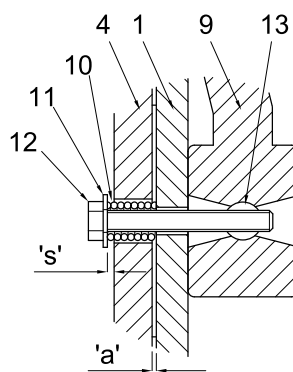

Figure 44 – Hoist Brake Hand Release
- Insert the compression springs (10) into the holes of the armature plate (1).
- Fit the washers (11) onto the hand release fixings (12) and assemble through the compression springs (10) and the stator (5).
- Fit the barrel nuts (13) into the holes provided in the hand release (9).
- Position the hand release (9) over the stator and tighten the hexagon screws (12) into the barrel nuts (13) until the armature plate moves towards the stator.
- Adjust the gap between the armature plate and the stator using the hexagon hand release screws (12) to achieve a dimension ('s' + 'a') (see Figure 44). Example 1.8mm (1.5+0.3) for brake size 3. Check the dimension at three positions around the circumference.
- Fit the complete brake assembly onto the hoist and tighten the assembly screws (7) to the value shown in the table (5.10.2).